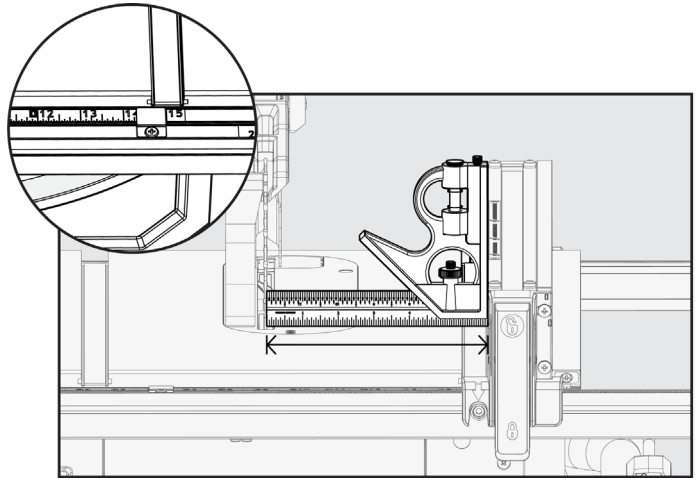

Figure 35
1. Using a precision measuring tool, measure the distance from the inside face of the Blade to the edge of the Miter Slot. See Figure 35.